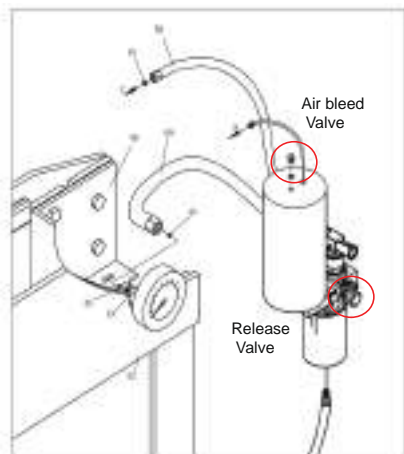
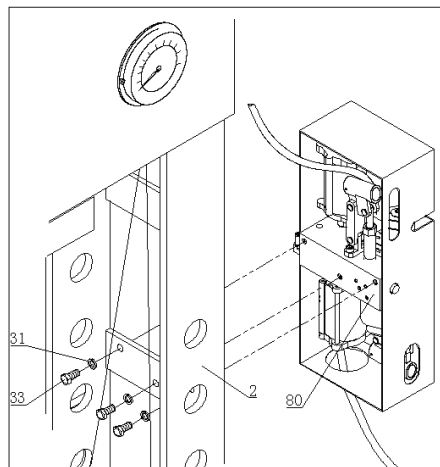

Fig.07
Fig.09
- Move the pump assy, Fig.07 (WP75P), Fig.09 (WP100P),to the outside of the post, use bolt and washer which dismantled just now to twist tight on the right connecting plate .
- Open the release valve, by turning it in an anti-clockwise direction, and open air bleed vavle, Fig.07.